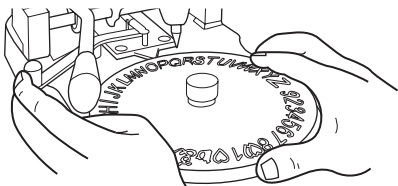

Fig. 1.2
Push the Stylus Arm (9) back into its catch and manually rotate the Engraving Dial (**Fig. 1.2**).